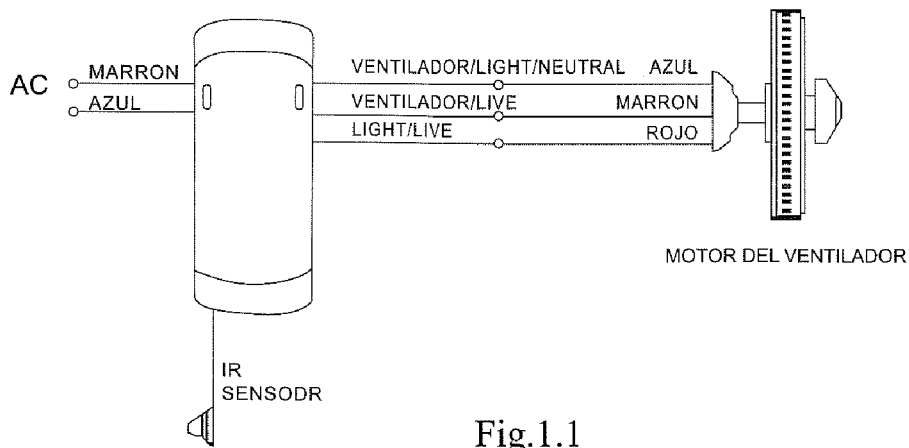
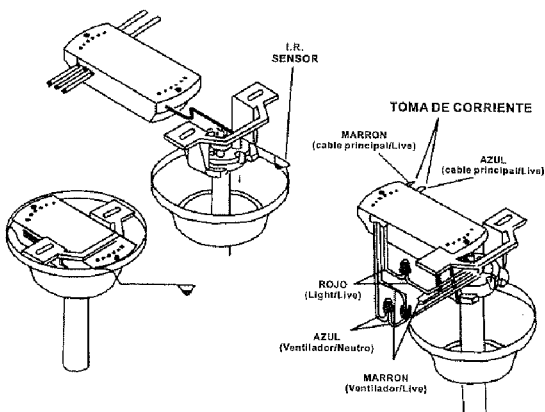
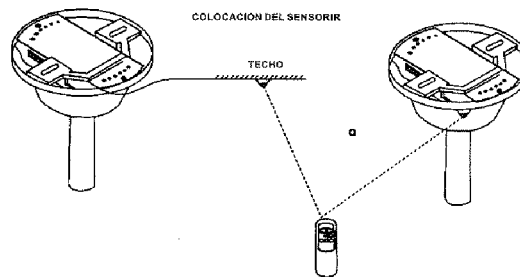

Fig.1.1
Fig.1.2
Fig. 2
1. Connect the wires as shown in the illustrations (Fig. 1.1 y Fig. 1.2.) Place the infrared sensor always out of the bezel. Its location will depend on the reception conditions. (Fig. 2)
2. After connecting the cables insert the receiver into the fan bracket as shown in the illustration (Fig. 1.2) and cover with the bezel.